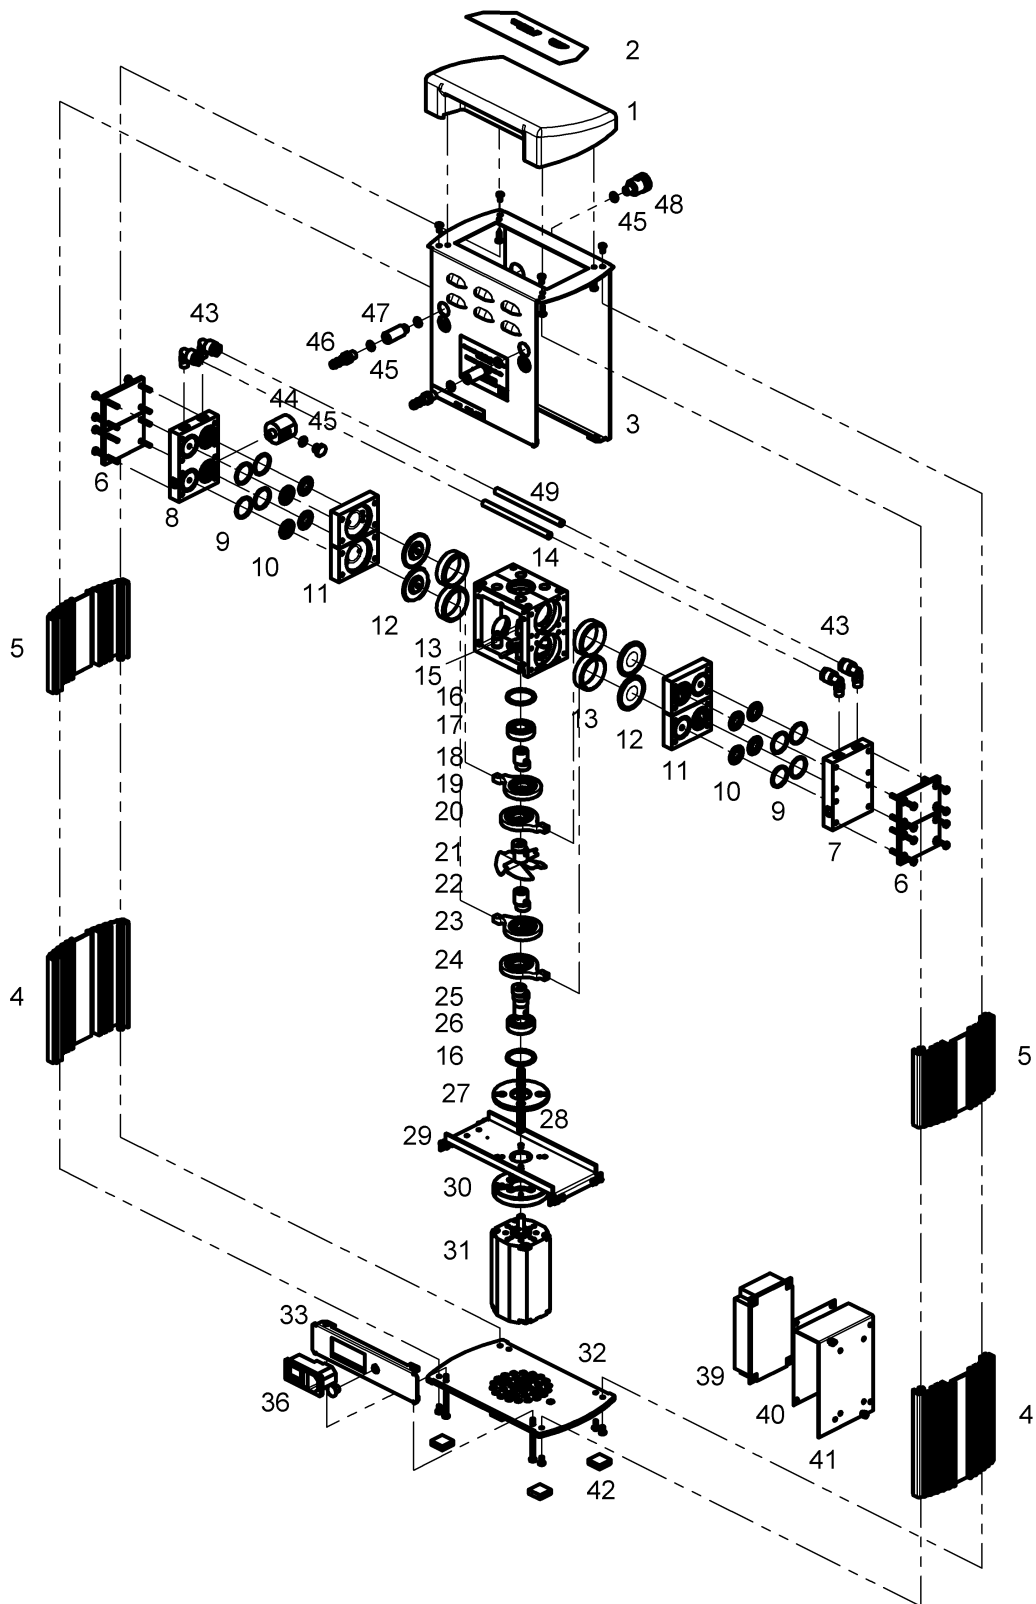

Fig. 4 Exploded view MPC 155 Z
3. Bring the connecting rod (see Fig. 4 - 6) and the diaphragm **(6)** into the central position.